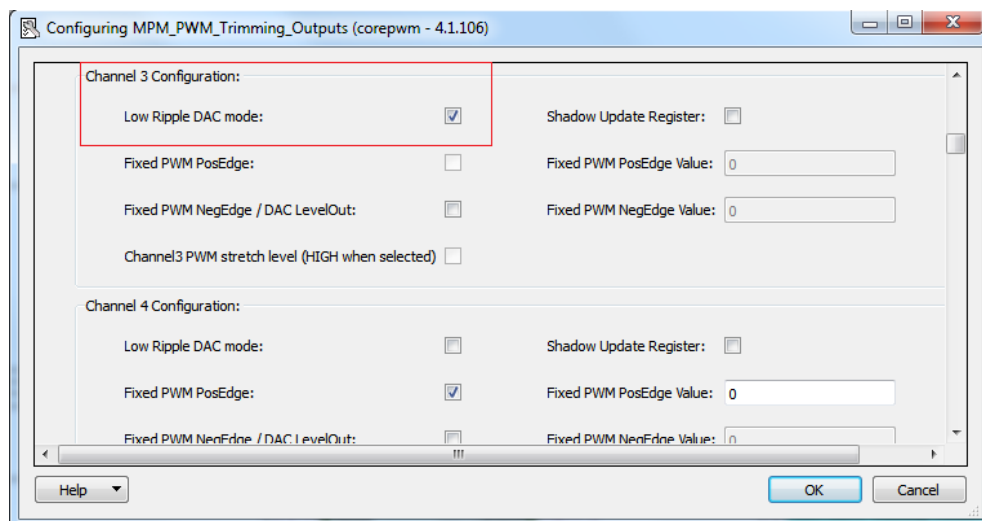

Figure 35 • Selecting Low Ripple DAC Mode
2. Current design has 3 PWM channels. After adding the new PWM channel, select Low Ripple DAC mode for channel 3 as shown in Figure 35.